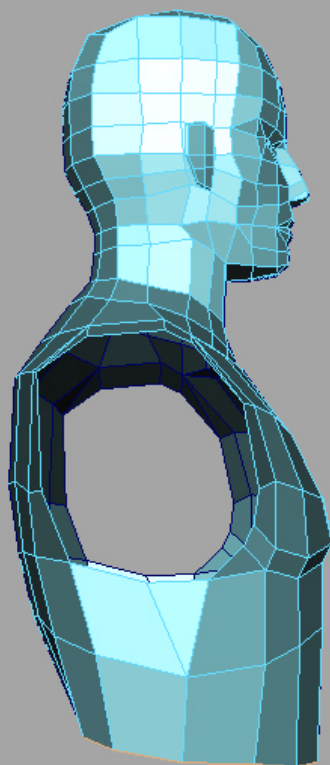

Fig 11
11. Now we've created the upper side of the body and the connection to the arm that will be create later. All we have to now is to finish the lower part of the body. Select the edges as in "Fig 11" and extrude them down once.